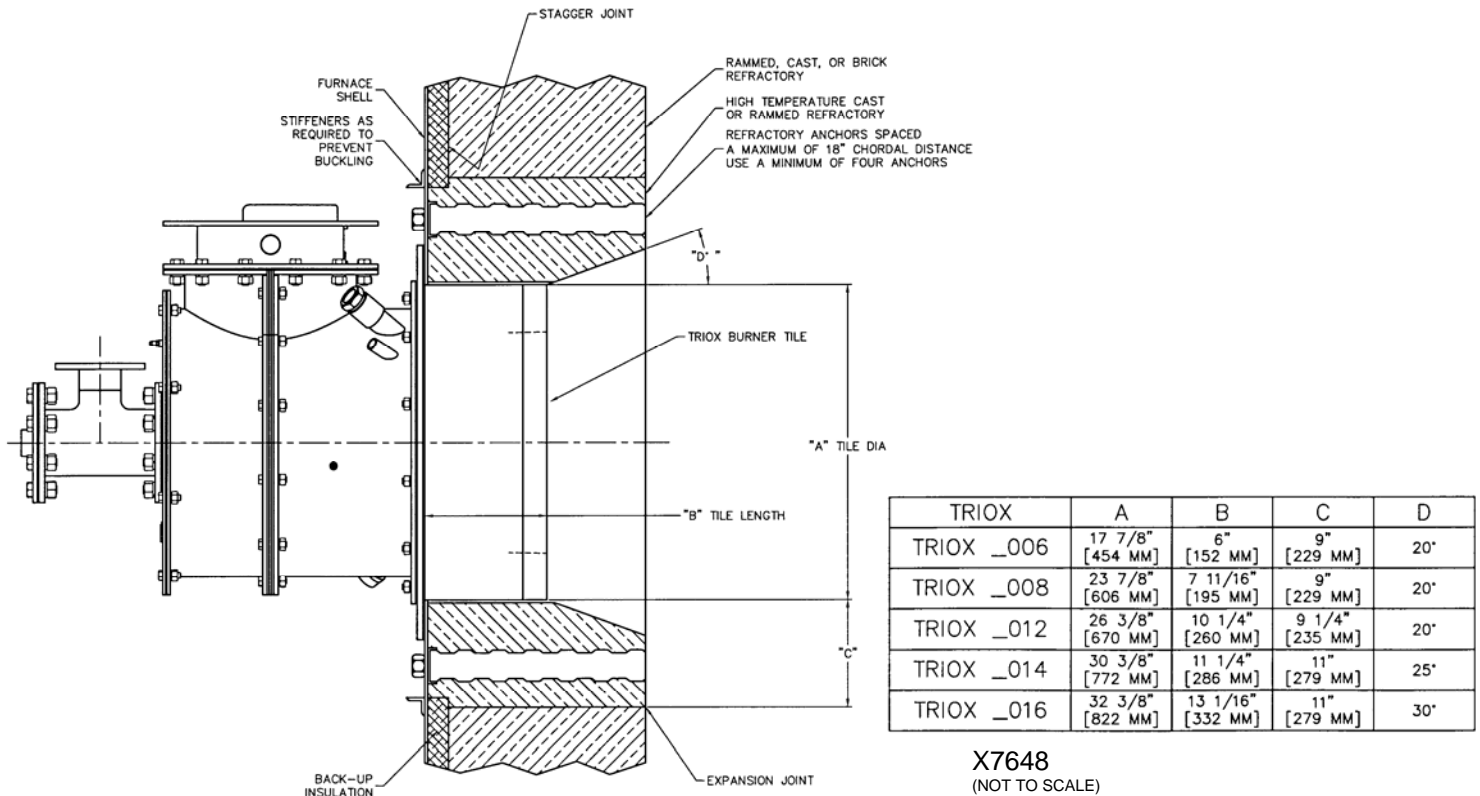

Figure 1. Burner Mounting and Refractory Installation
3. For installation in an existing refractory wall, refer to Figure 1. From inside the furnace, remove rammed, cast or brick refractory as required to allow for installation of the port block using cast or rammed refractory.
6. Install refractory anchors to the furnace shell to secure the refractory port block to the furnace shell. Refer to Figure 1 for spacing of anchors and provision for expansion joints, or follow the refractory manufacturer's recommendations. The refractory wall must exert no stress on the burner tile when the furnace is hot or cold.